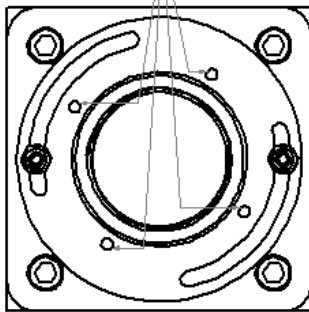
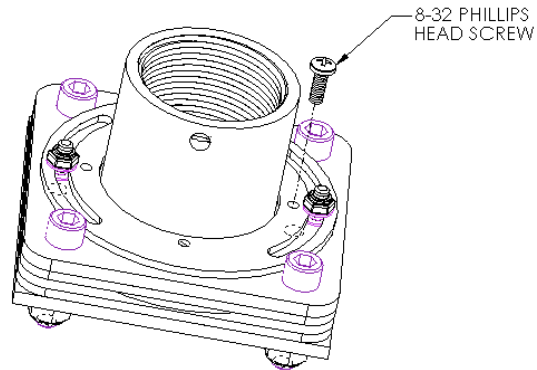

Figure 5. Phillips Screw Location Options
Figure 6. Install Phillips Screw
4. Adjust swivel amount, using the Phillips screw (see Figure 5 and Figure 6), by rotating stop plate and tightening 10-24 Nylock nuts (2 places).